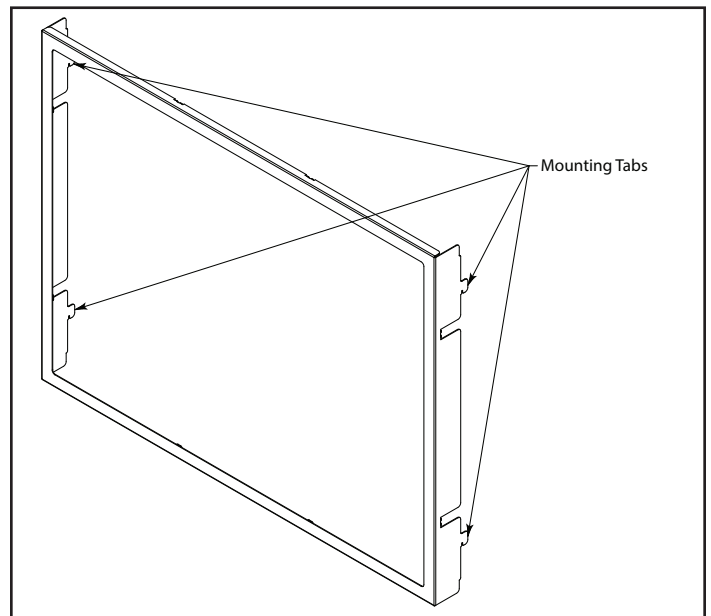

Figure 7
10. Lift the Screen Front and hang on the appliance, ensuring that all tabs are inserted into the mounting slots. See Figure 7.